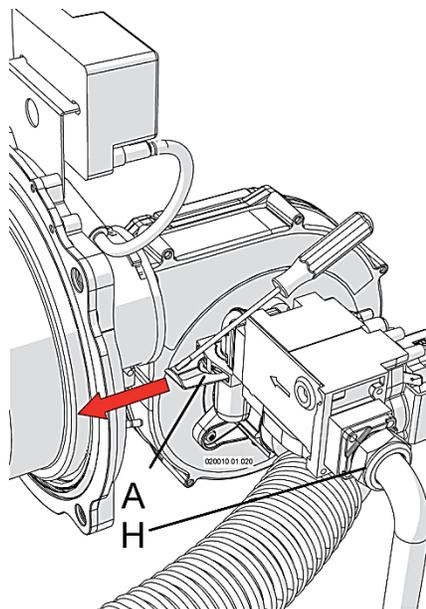
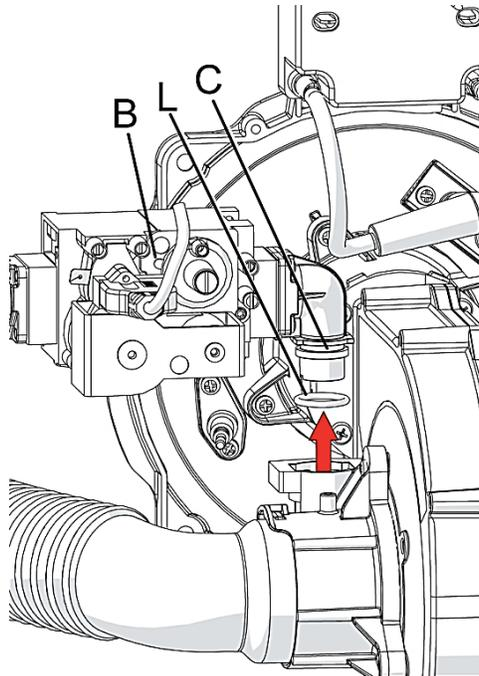

Figure 10-4: Removing the Nut & Spring from the Gas Valve
Figure 10-5: Removing the Gas Valve
7. Unscrew nut “H” (Figure 10-4). Take note of the gasket between nut “H” and the gas valve and remove the electrical plug from the gas valve.
8. Remove spring “A”, as indicated in Figure 10-4, using a screwdriver.
9. Remove the gas valve from its position (see Figure 10-5). Note the O-ring “L” per Figure 6-5.
16. Reassemble the components by performing the disassembly steps in reverse order, taking care to reinstall the gasket at nut “H” of Figure 10-4 and the O-ring “L” as per Figure 10-5. These must be replaced with a new gasket and/or O-ring if not in good condition.